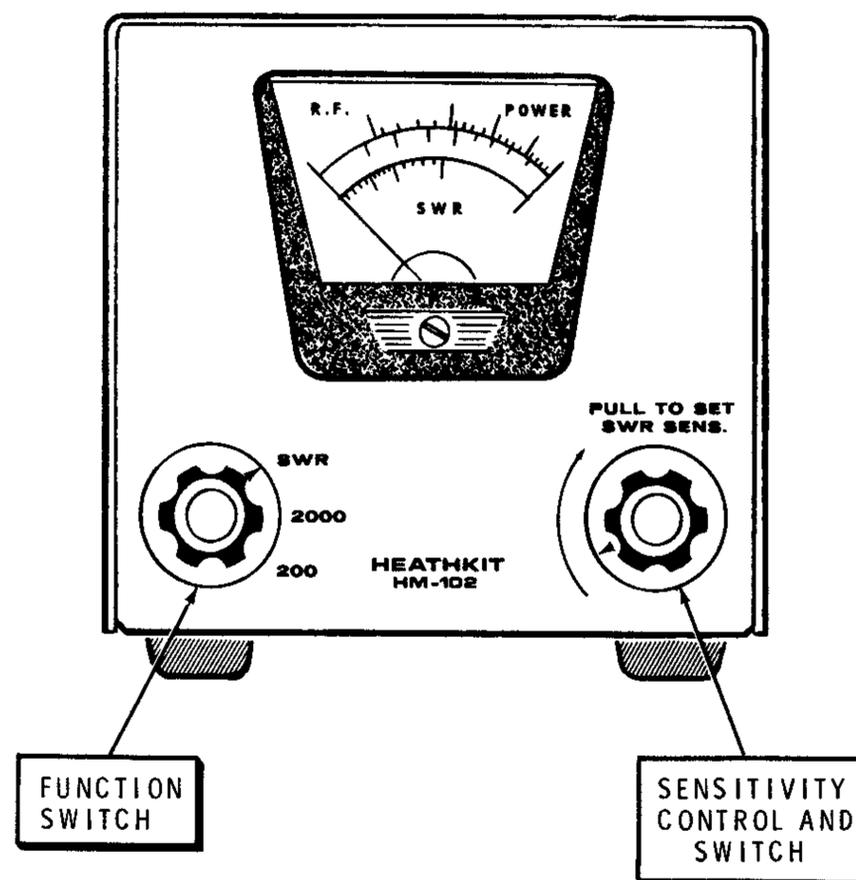

Figure 2
- 4.( ) Set the FUNCTION switch to 200. (See Figure 2.)